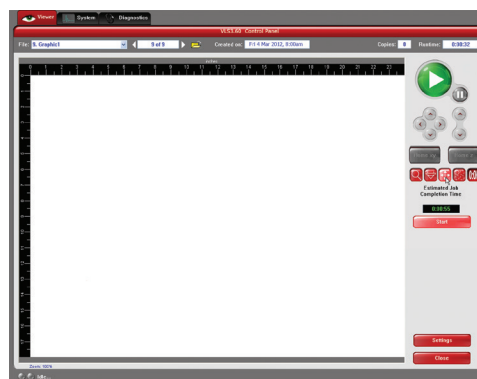

Figure 6
8. Launch the UCP by selecting the square red UCP icon on the taskbar and the current print job will appear in the Viewer Tab of the Universal Control Panel (Figure 6).
4. Click the green START button on the UCP to begin laser processing (Figure 6 on previous page).